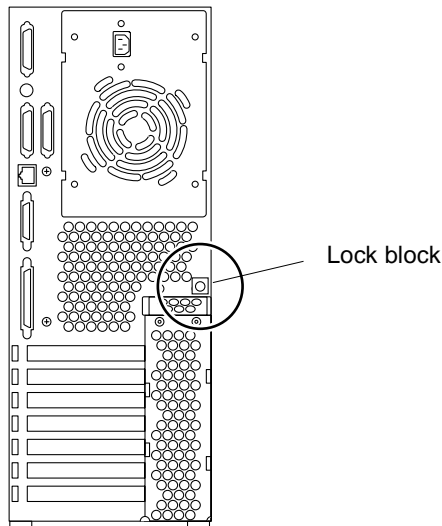

FIGURE 8-10 Lock Block Location
12. **Connect the lock block (FIGURE 8-10).**